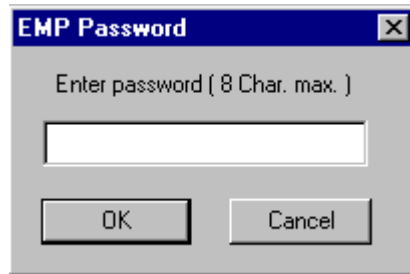

Figure 6: EMP Password Prompt
10. You next see a prompt for the password to connect to the server. See figure 6.